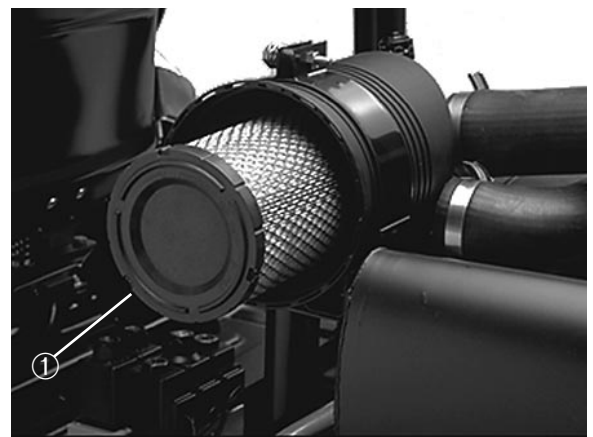

Figure 33
2. Gently slide the primary filter (Fig. 33) out of the air cleaner body to reduce the amount of dust dislodged. Avoid knocking the filter against the air cleaner body. Do not remove the safety filter.